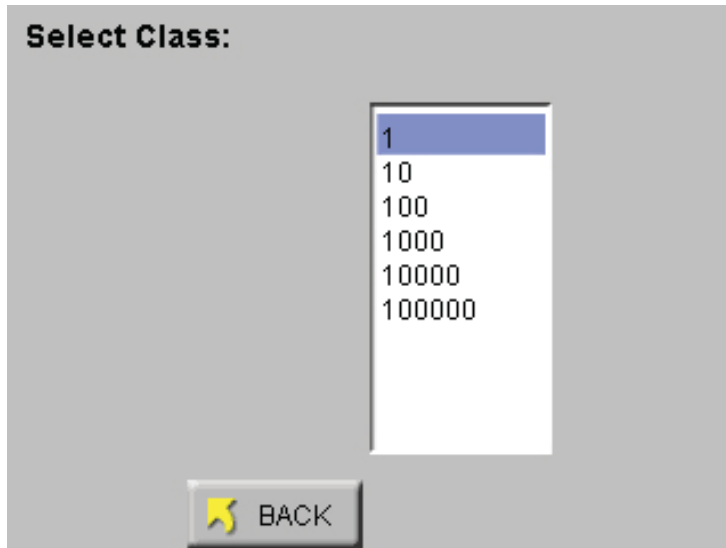

Figure 6-84 Select Class Level
- Press the CLASS button and the Select Class screen displays as shown in Figure 6-84.